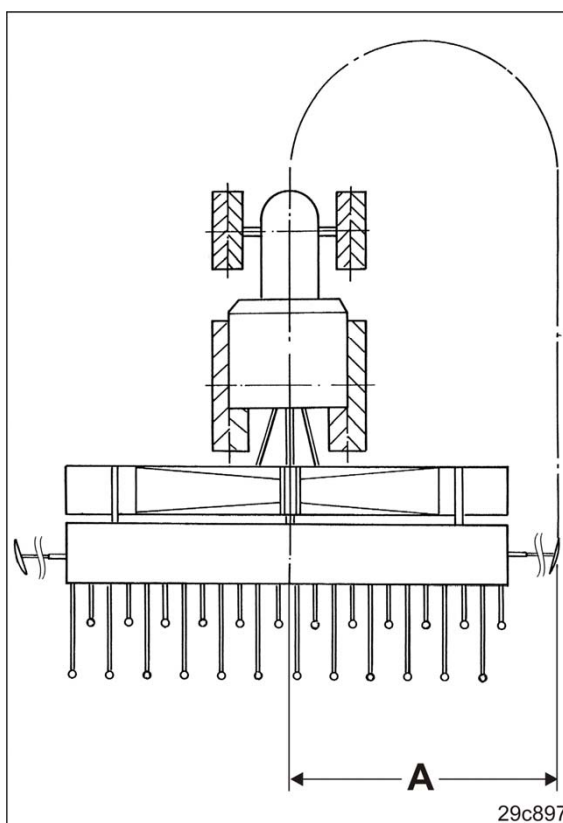

Fig. 153
5. Set the track marker length to length "A" [see table (Fig. 153)].